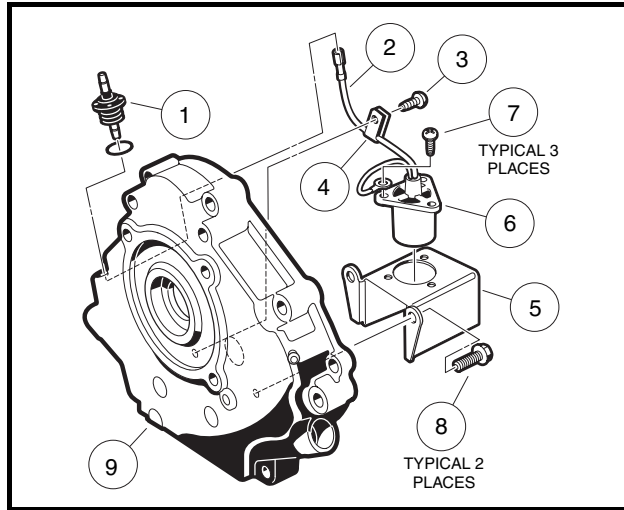

Figure 13-5 Oil Level Sensor
1. If the oil level sensor was removed from the bracket, install sensor (6) into bracket (5) and secure with three screws (7) (**Figure 13-5, Page 13-6**). Tighten to 17 in-lb (1.9 N·m).
3. Connect sensor wire (2) to cord connector (1) (**Figure 13-5, Page 13-6**).
4. Install screw (3) through wire clamp and into crankcase cover. Tighten to 30 in-lb (3.4 N·m).